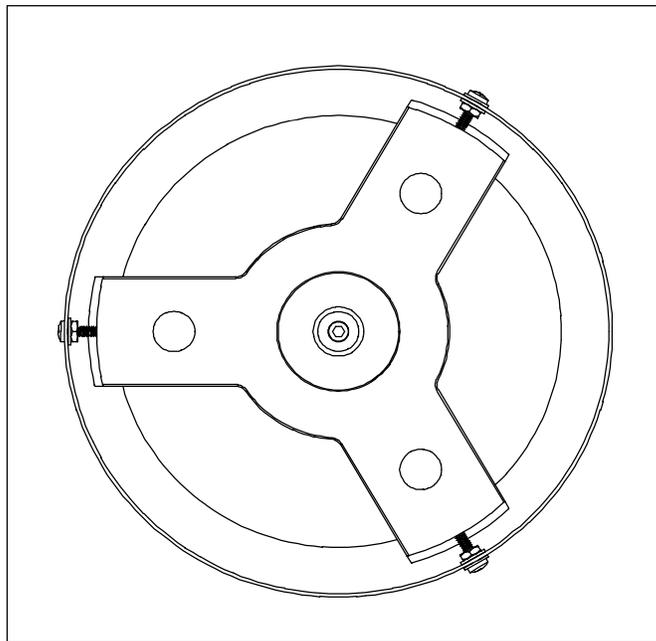

Figure 7 -- Rear view of aluminum tube model
8. After all three screws are in place, tighten the hex nut against the inner wall of the tube locking the mirror cell in place (See Figure 7).